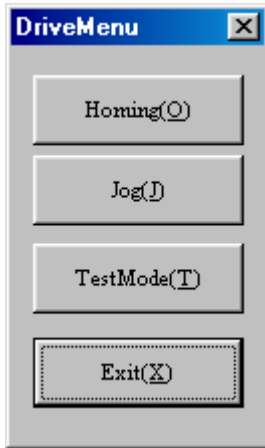

Figure 8.20 “DriveMenu” dialog box
Click *“Drive (D)”* under *“MainMenu”* to display the *“DriveMenu”* dialog box (see Figure 8.20).